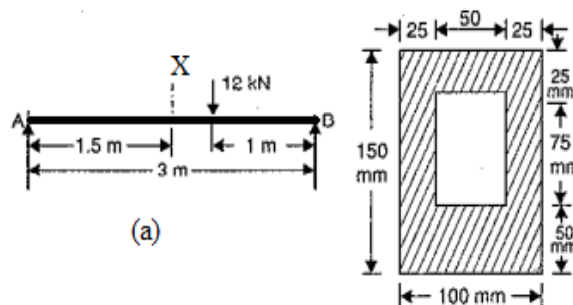

Fig.4
- 5 a) What is meant by pure bending? Sketch an example of a beam subjected to pure bending. (3)
- b) A simply supported beam of length 3 m carries a point load of 12 kN at a distance of 2 m from left support. The cross section of the beam is as shown in Fig.4 b. (12)